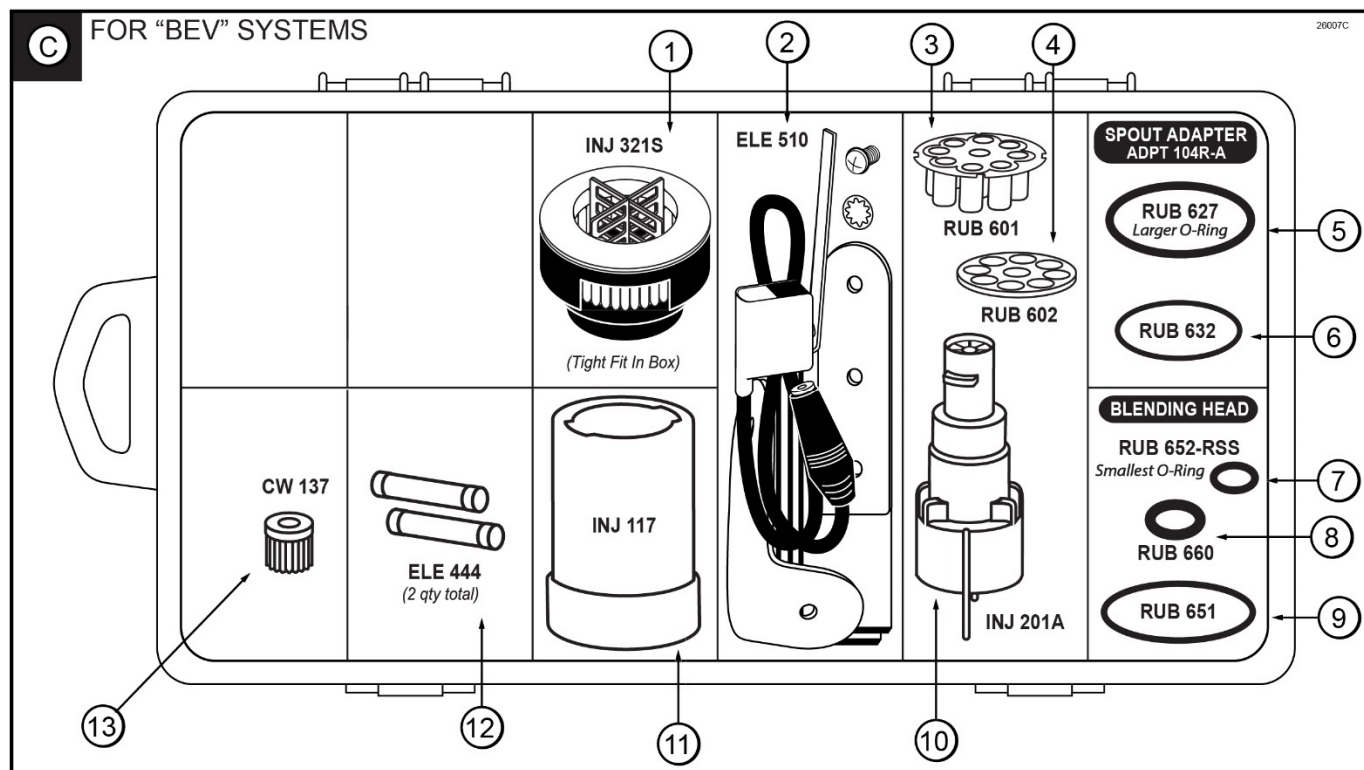

Figure 8C
**“BEV” Spare Parts Kit (See Figure 8C)**